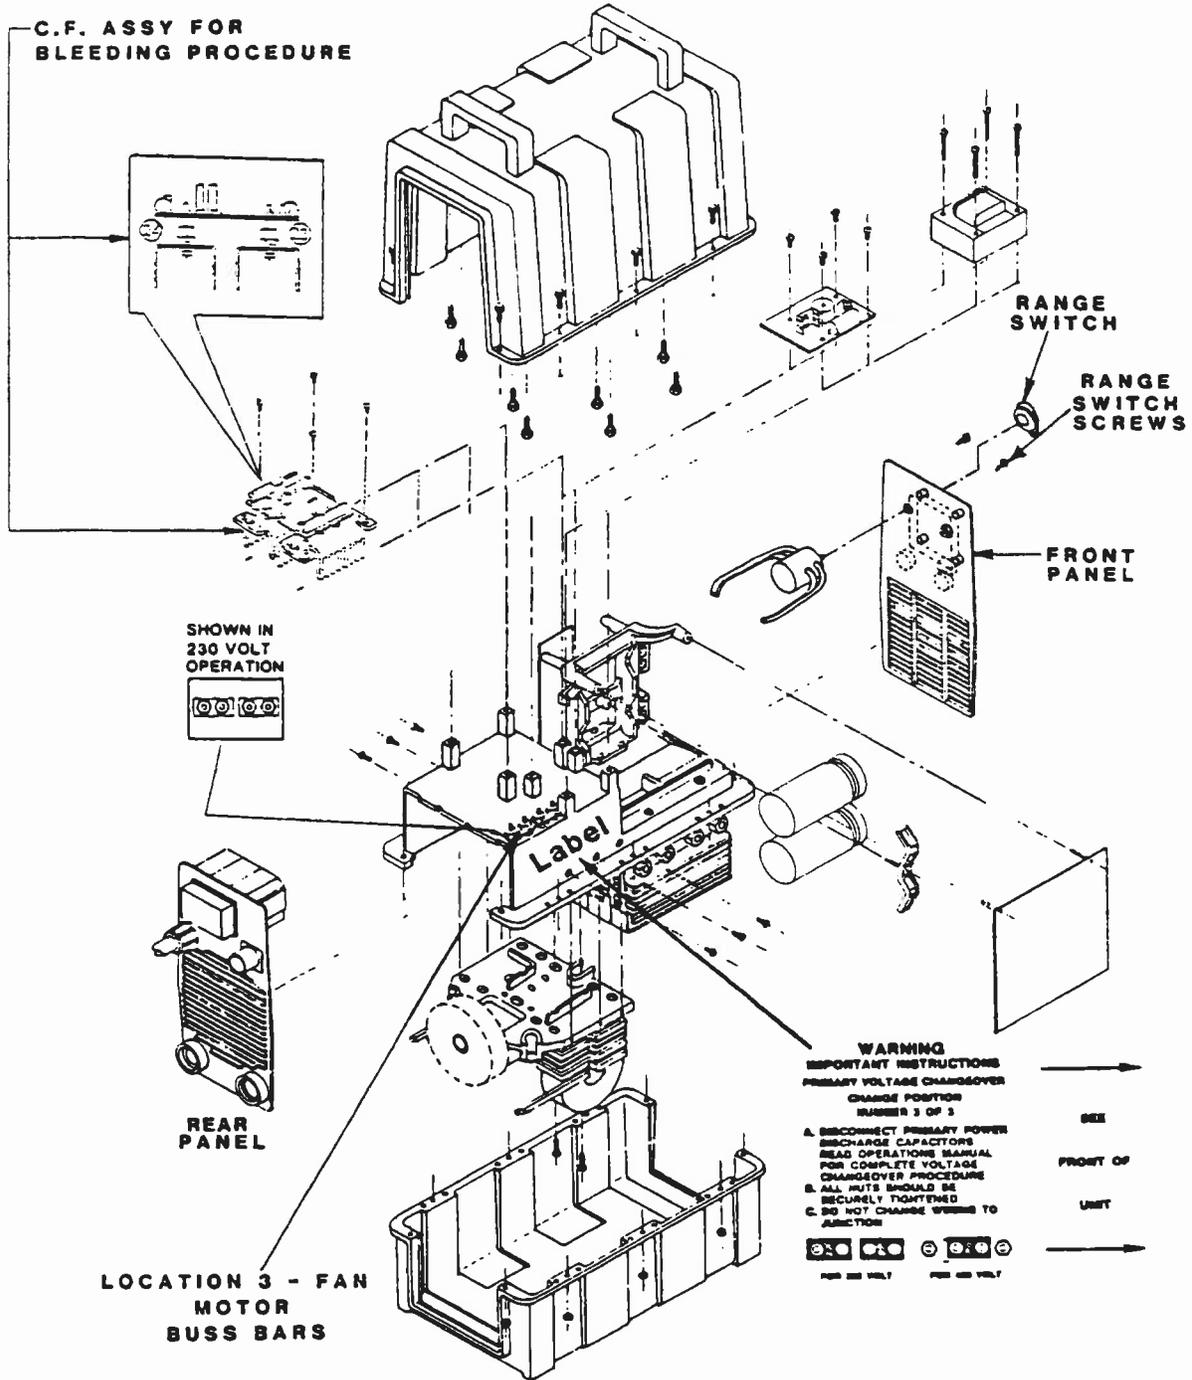

Figure 5, Location 3 Voltage Changeover
- 3) Copper buss bars for fan motor (left rear side of unit, see Figure 5.)
- A) Locate and read the warning label for the copper buss bars shown in Location 3 of Figure 5.
- B) Locate the C.F. assembly inside the unit as shown in Figure 5. The C.F. assembly can be identified by two aluminum heatsinks which contain three diodes each.